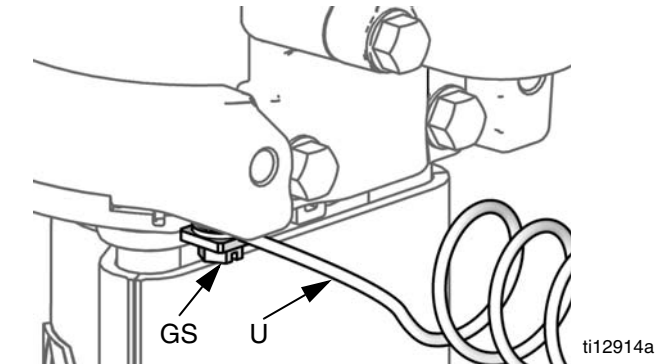

FIG. 2: Ground wire
See FIG. 2. Verify that the ground screw (GS) is attached and tightened securely to the air motor. Connect the other end of the ground wire (U) to a true earth ground.